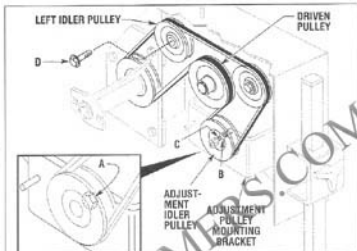
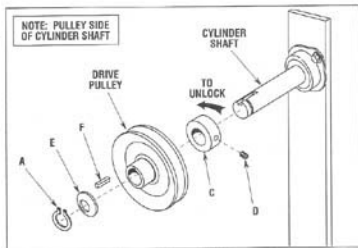

Figure 5-3: Drive belt removal.
Figure 5-4: Cylinder shaft removal (pulley side).
- Remove the belt and install the new belt in the grooves in the pulleys in the pattern shown in Figure 5-3.
Remove the adjustment idler pulley by removing the nut (A) shown in Figure 5-3 above.
Use snap ring pliers to remove the snap ring (Figure 5-4) which secures the driven pulley (see Figures 5-3 and 5-4). Remove the washer (E) and the driven pulley as shown in Figure 5-4 to access the locking collar (C).
Use a hex wrench to remove the setscrew (D) in the locking collar (C). Use a hammer and punch to unlock the locking collar. Position the punch in the punch hole (the non-threaded hole, *not* the setscrew hole) and use the hammer to turn the collar counterclockwise (the opposite direction from shaft rotation). See Figure 5-4. Do not lose the key (F) in the cylinder shaft.
- On the pulley side, push the cylinder assembly inward and then down past the adjustment pulley mounting bracket (shown in Figure 5-3), so that the assembly can be lowered through the clearance area and out of the machine.
2. Raise the entire assembly, with closure plates and bearings, up into place. Push the shaft toward the chipper side far enough to allow the other end of the shaft and closure plate to clear the adjustment idler pulley mounting bracket (see Figure 5-3).
4. On the pulley side, tighten the locking collar and lock the collar (C in Figure 5-4) by turning it against the bearing flange using the hammer and punch. Turn the collar clockwise. Secure the collar in place with the setscrew (D). See Figure 5-4.
5. Install the driven pulley on the cylinder shaft. Replace the washer (E), and secure the pulley with the snap ring (A). See Figure 5-4.
6. Replace the left idler pulley as shown in Figure 5-3.